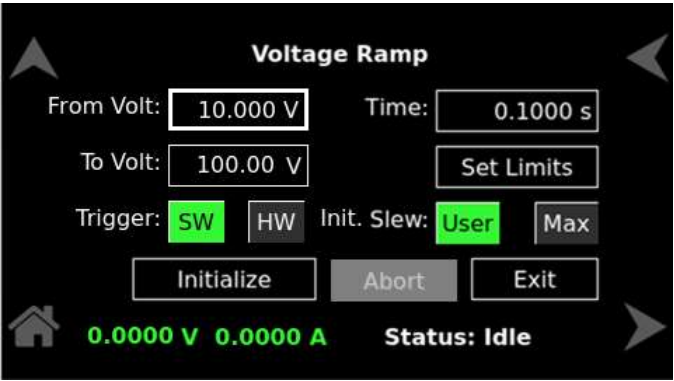

Figure 10-67. Status – IDLE
a) **IDLE** - When the system is in Idle (not performing any task) situation, refer to Figure 10-67.